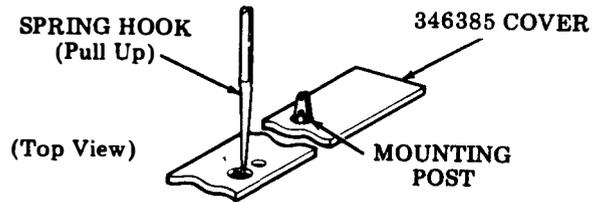

Fig. 21—Cover Removal
- (d) Remove the circuit card cover located in front of the control keys from the channel. Use a spring hook to remove the cover from the mounting posts (Fig. 21).